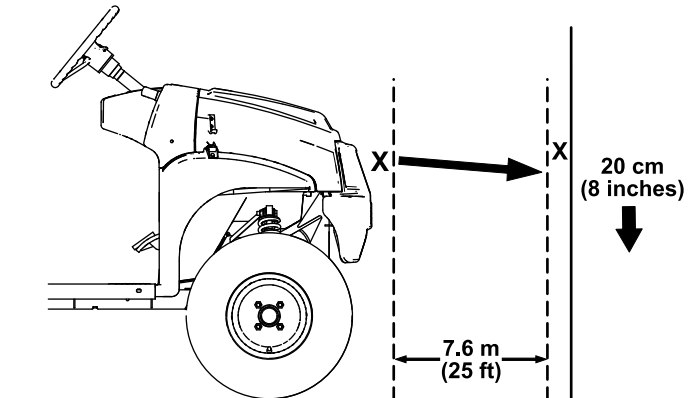

Figure 49
1. Park the machine on a level surface with the headlights approximately 7.6 m (25 ft) from a wall (Figure 49).
The brightest part of the headlight beam should be 20 cm (8 inches) below the mark placed on the wall (Figure 49).